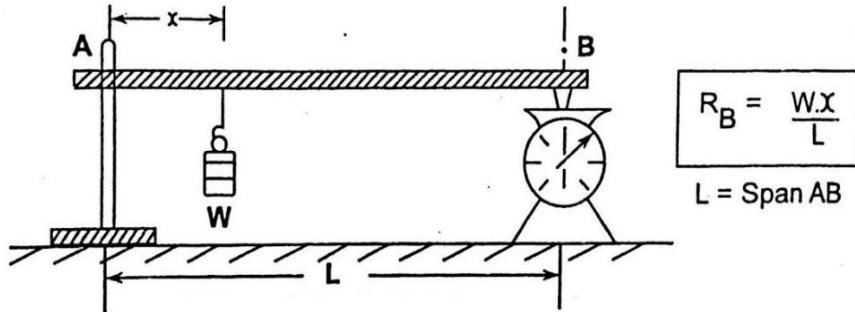
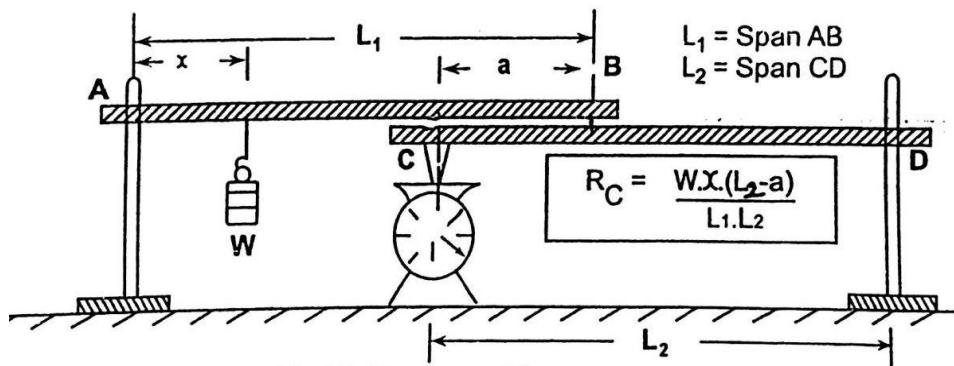

Fig. 3. Simple Beam
Figure 4. Compound Beam
- i) Place a wooden beam horizontally with its one end resting on the pan balance as shown in the fig. 3.
- iii) The external load (W) is attached to the hanger at a distance 'x' from the pin support.
- iv) Note down the final reading shown by the pan balance due to self-weight and external load (W).
- v) From the final reading, initial reading is subtracted to get the reaction due to external load (W) only.
- vii) Above procedure is repeated for the arrangement of the compound beam as shown in the fig. 4.